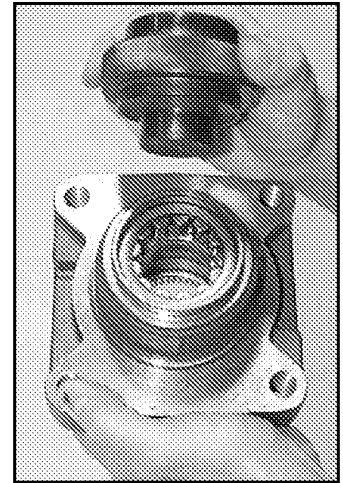

Figure 20
1) If the housing (18) bearing components were removed for replacement, thoroughly coat and pack a new outer bearing (19) with clean corrosion resistant grease. Press the new bearing into the counterbore at the mounting flange end of the housing, using the appropriate sized bearing mandrel, (**Grasshopper PN 885288**) which will control the bearing depth. These housings require the use of the bearing mandrel to press the bearing (19) into the housing to a required depth of .290/.310 inches (7.37/7.87 mm) from the outside end of the bearing counterbore. **Figure 20**